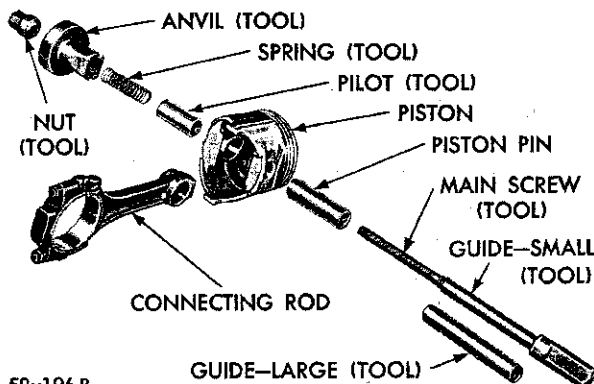

Fig. 41—Tool Arrangement for Installing Piston Pin
(1) Test the piston pin fit in the piston. It should be a sliding fit in the piston at 70 degrees F. Piston pins are supplied in standard sizes only.
(2) Lubricate the piston pin holes in the piston and connecting rod.
(3) Arrange the Tool C-3624 parts for installation of piston pin as shown in Figure 41.
(4) Install the spring inside the pilot and install the spring and pilot in the anvil. Install the piston pin over the main screw.
(5) Place the piston, with "front" up, over the pilot so that the pilot extends through the piston pin hole.
(6) Position the connecting rod over the pilot which extends through the piston pin hole.
(7) Install the main screw and piston pin in the piston, as shown in Figure 41.